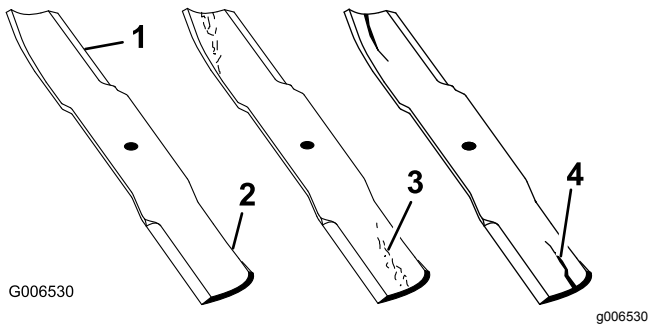

Figure 47
1. Inspect the cutting edges (Figure 47).
2. Inspect the blades, especially the curved area (Figure 47).
Note: If you notice any damage, wear, or a slot forming in this area (items 3 and 4 in Figure 47), immediately install a new blade.